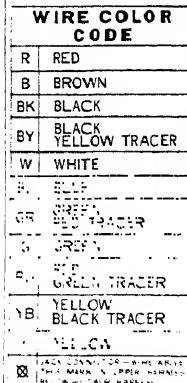

Fig. 7.—THE ELECTRIC HAND (1935-36 MODELS)
(Fig. 6). When the valve (22) connected to the cross-change cylinder is drawn down by its solenoid, the diaphragm moves backward, pulling the bellerank (*F*) which moves the control shaft (*E*) to the right to engage the lower end of the change lever (*A*) with the low and reverse change-rail fork (*C*). This position is shown in Fig. 7.
Fig. 7 shows the same condition as in Fig. 6, except the selector lever has been pushed to the left but is still in the neutral position. It will be noted that the circuit from (10) in the selector switch is now completed through the contact sleeve to both (11) and (12).
Referring to Fig. 7, the action will be the same for low and reverse as just explained for high and second as the lever (*A*) is held in engagement with the change rail (*C*) and all other circuits are identical.